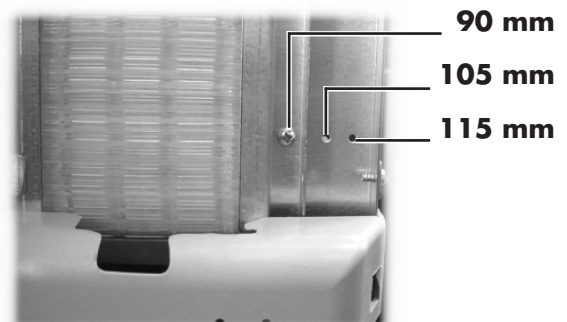

Fig. 26
- Move the stirrer guide into the hole (Fig. 26) corresponding to the desired dimension and tighten the two screws.